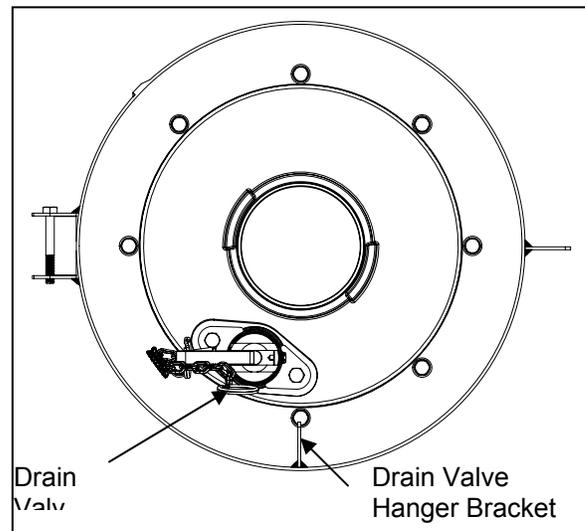

Figure 3
- If the skirt is damaged it can be replaced by removing the eight base bolts and replacing the Base O-ring. Tighten the bolts to 15-20 ft-lbs using a crossing pattern. Be sure to note the drain valve chain hanger bracket location in relation to the drain valve. Position accordingly. (See Figure 3)